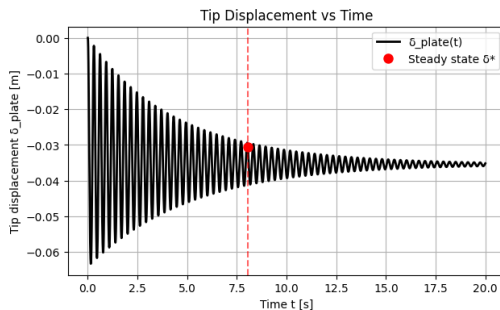

Fig. 1. Tip displacement $\delta_{\text{plate}}(t)$ versus time
c) *Tip displacement versus time:* Fig.1 shows the complete evolution of $\delta_{\text{plate}}(t)$ from $t = 0$ to $t = 20$ s. The point $t = t^*$ at which the plate first satisfies the steady-state condition is marked with a red circle, and a vertical dashed line indicates the moment at which steady state is detected.